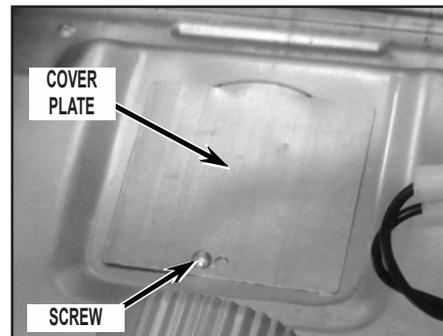

FIGURE 23
**NOTE:** If dryer was previously setup for bottom venting, from inside of dryer install the metal cover plate with screw included with kit to the bottom panel hole that the vent tube previously existed. See *Figure 23*.